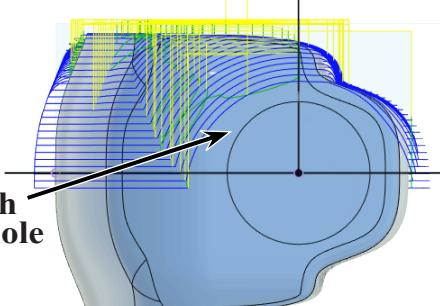

Fig. 43
Step 10. Confirm toolpath avoids rear surface and does not pass across the cartridge hole, Fig. 43.